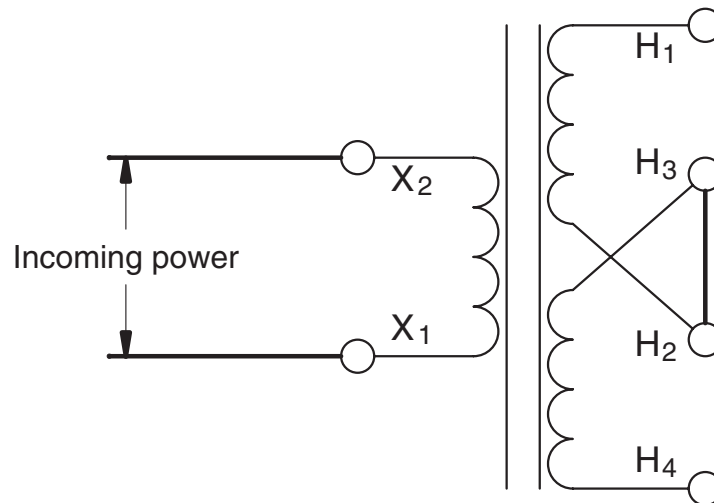

Figure 19-11 The incoming power is connected to terminals X_1 and X_2 .
14. Connect the transformer as shown in Figure 19-11. Make certain that the voltage applied to terminals X_1 and X_2 is 120 volts and not 208 volts. Also make certain that the AC voltmeter is set for a higher range than the computed value of voltage in step 13.